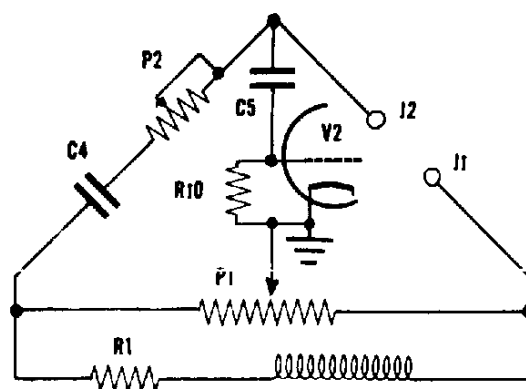
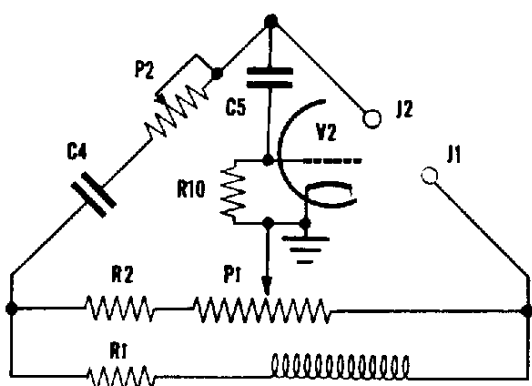

Fig. 2
Fig. 3
- Fig. 2. Bridge circuit for ".1 mfd - 50 mfd" range. P2 is required to balance the internal series resistance frequently present in electrolytic capacitors and is calibrated in % power factor.
- Fig. 3. Bridge circuit for "50 mfd - 5000 mfd" EXPanded range. R2 expands capacitance measurement range as compared to circuit of Fig. 2.